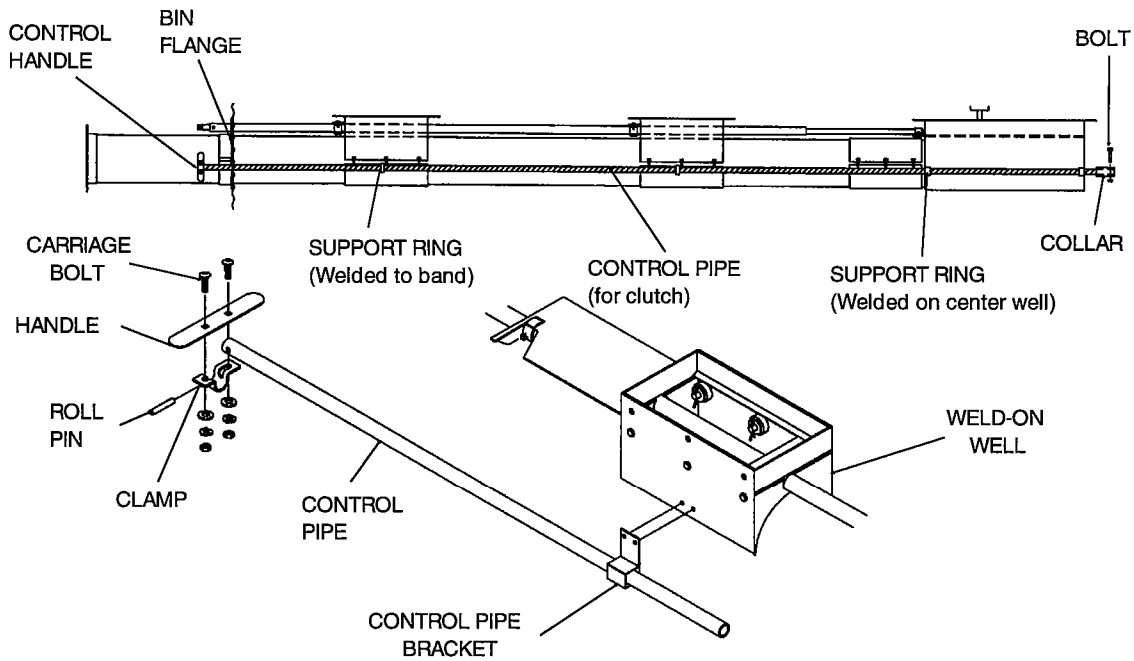

FIG. 16
9. Install control pipe for clutch on center well. (See Fig. 16.)